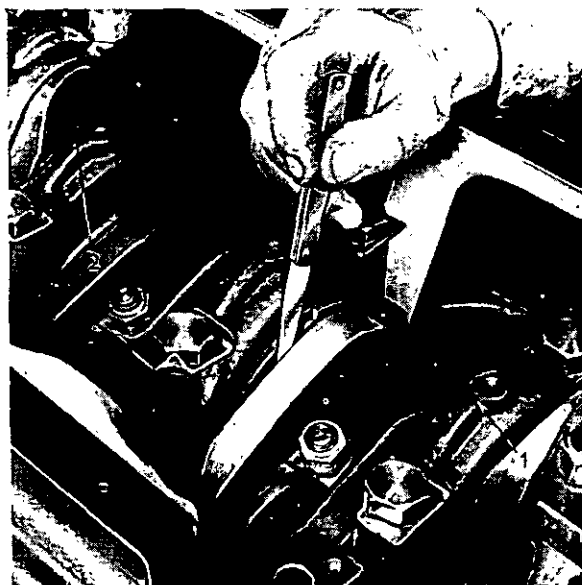

Fig. H.3. Checking Crankshaft End Float.
4. Check the crankshaft end float for a clearance of 0.002/0.015 in (0,05/0,38 mm). Fig. H.3.
9. Check the crankshaft end float for a clearance of 0.002/0.014 in (0,05/0,36 mm) (Fig. H.3). Oversize thrust washers may be fitted.